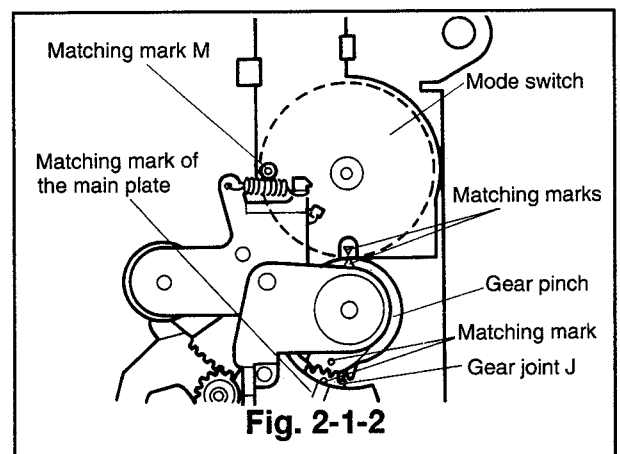

Fig. 2-1-2
- ① Make sure that the holes (matching mark M) on the body and cogwheel of the mode switch align with each other as shown in Fig. 2-1-2. At the same time confirm that the hole of the gear pinch aligns with the matching marks of the gear joint J and the ∇ mark on the mode switch cogwheel, refer to Fig. 2-19-5. This indicates the J deck is in the EJECT mode.